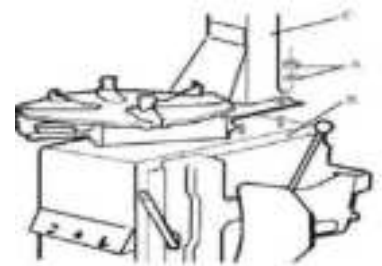

Fig 3
2. Unscrew the nut A on the cabinet body B as shown in Fig 3. Lift the column C; mount it on the machine body B by using the nut A through the bolt located on the machine body B. If the column becomes loose after a period of using, tight them immediately. Otherwise the result of damage to the tyre may happen.
Control devices are shown as Fig 3 and included the following: